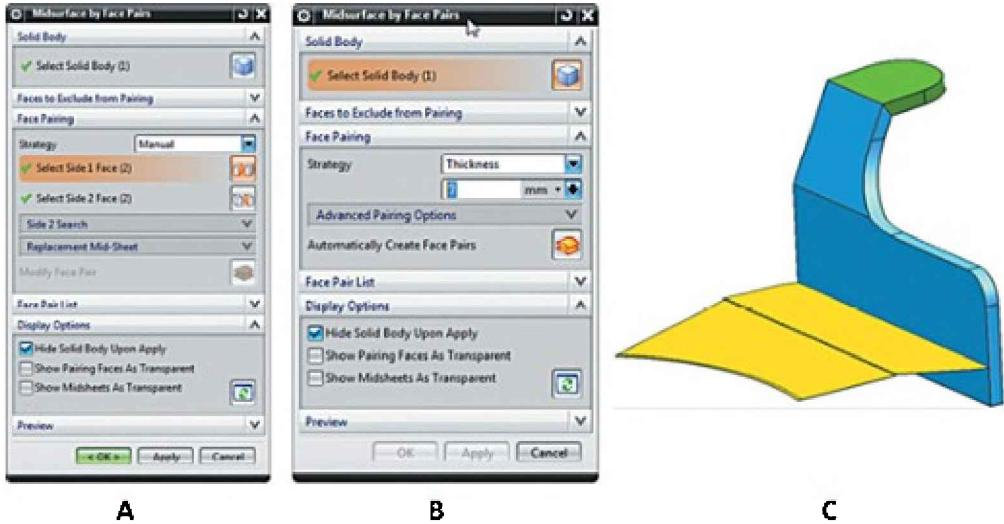

Figure 2.25. Creating midsurfaces:
2. Click **Midsurface by Face Pairs** on the **Midsurface** toolbar. In the **Midsurface by Face Pairs** dialog box (Figure 2.25) do the following:
- Under *Strategy* select *Manual*. Select faces for side 1 and side 2 (Fig. 2.25, A).
- Under *Strategy* choose *Thickness*, and enter 7 mm (Figure 2.25, B).